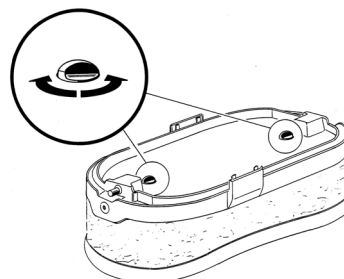

figure 2
- 9 - It is possible to lock the cover by rotating the two keys located on its lower part. (see figure 2)